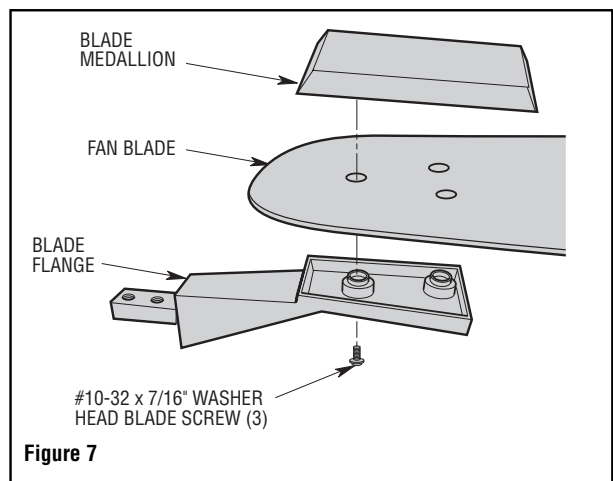

Figure 7
- Position one blade medallion onto the blade. Place the blade flange to the other side of the blade to secure the medallion and blade to the flange. Mount the medallion, fan blade, and blade flange using the three #10-32 x 7/16" washer head blade screws (Figure 7).